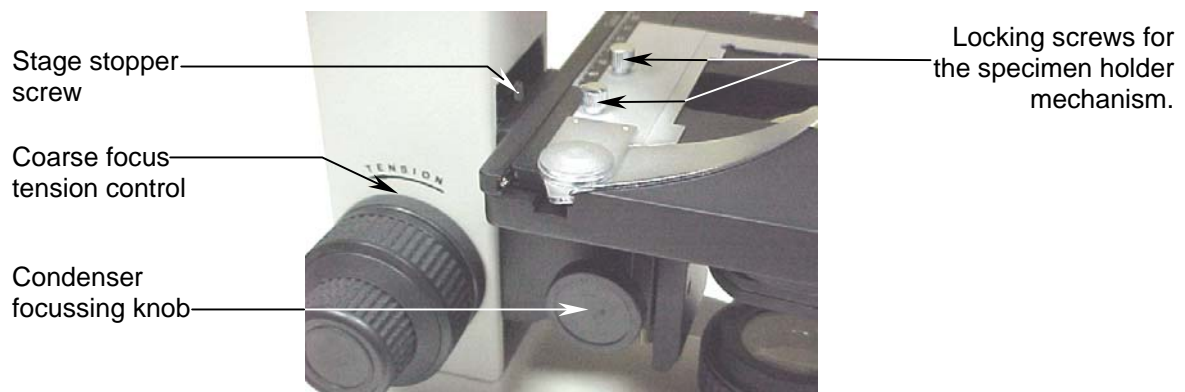

Fig. 1
- Turn the coarse focus knob (16) until the stage (8) is in its highest position.
- Turn the focussing knob on the condenser (Fig.1), until the condenser holder reaches its lowest position.
- B. Specimen holder mechanism (6): Turn the coarse focus knob (16) until the stage (8) reaches its lowest position. Unscrew the two locking screws (Fig. 1) of the specimen holder mechanism. Place the mechanism on the stage with the moveable finger pointing upwards (4) so the holes on the mechanism line up with the locking screws. Tighten locking screws firmly.
- C. Objectives (5): Ensure that the revolving nosepiece (3) is well positioned: i.e. that it does not revolve freely, but rotates until a “click” is heard, showing that it is secure in place. Place objectives, starting with the lowest magnification 4X in any of the holes in the revolving nosepiece. Next, place that of the second lowest magnification 10X in the hole alongside, and so forth: the 40X objective, and finally the 100X objective can be placed.
- D. Head (12): Loosen the knurled locking screw on the head (14) and remove the protective cover on the collar where the head is placed. Insert the head, until it is well supported on the stand (15). Although the head can be placed in any position, we recommend for your comfort that the eyepiece tubes (13) face forward on the microscope. Firmly re-tighten the knurled locking screw.
- E. Eyepieces (1): Remove the protective covers on the eyepiece tubes (13). Gently place the eyepieces in the tubes without touching the lens surface.
- F. Filter: Place the blue filter on the illuminator (19). Make sure that the filter is well positioned.
1. Focus on a sample with the 10X objective (5)..
2. Close the field diaphragm (11) turning the ring situated on the illuminator (19), until it appears in the field of vision.
3. Next, focus the field diaphragm, moving the condenser (10) using its focusing control (Fig. 1). Do not use the coarse (16) or the fine focus control knobs (17).